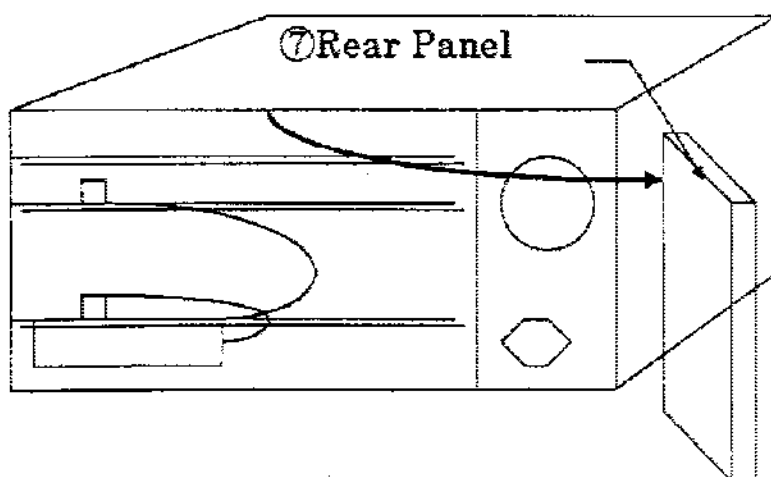

Fig.6
- ⑦ Remove REAR PANEL off from main frame. (Refer to Fig.6)
- ⑧ Paste Option label seal on the rear panel.